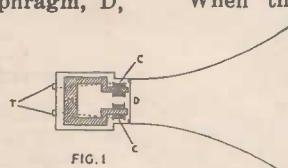

FIG. 1.
- (1) by means of a diaphragm and horn
- (2) the modern system of a cone; magnetic or moving coil.
**DIAPHRAGM-HORN:** The diaphragm-horn system Fig. 1, consists essentially of a thin metal disc, called a diaphragm, D, placed close to the poles of a magnet, M, over which are wound two small coils C, joined in series and connected to the two input terminals T. These coils are then connected in the plate circuit of the power tube, and plate current variations flowing in this circuit, pass through these coils, making the combination of M and C an electro-magnet. As the plate current fluctuates in these coils it has the effect of varying the pull which the magnet exerts upon the diaphragm D, causing it to fluctuate in accordance with the plate current changes. The varying air pressure caused by the small movements of the diaphragm D are intensified by means of the horn, so that an output of reasonable volume is obtained.